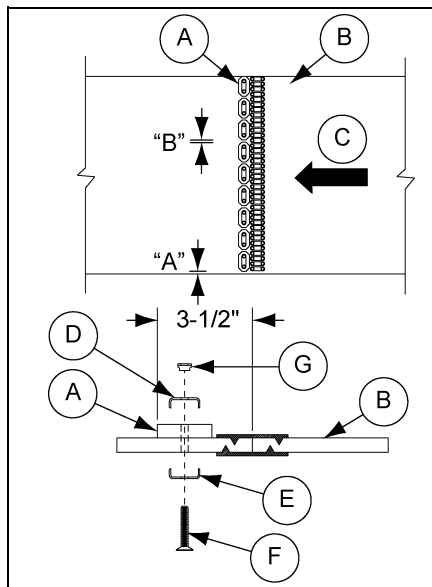

Figure 4P Belt Splice Protector Layout
Once the belt has been spliced and all nuts tightened, the belt splice protector is to be installed. The splice protector (A) is to be placed in front of the splice going with the flow of material (C). See Figure 4P for proper spacing.
1. Assemble bolts (F) in bottom plates (E). Snap clip over heads of bolts (F). Then insert bolts (F) from under side belt along the row of holes.
2. Place splice protectors (A) on top side of belt.
3. Place top plate (D) over one bolt. Insert Bolthorn Tool through the other plate hole and over the second bolt to pry it into place.
4. Assemble all top plates (D) the same way as in direction 3. Start nuts down by hand far enough so that wrench will engage bolts.
5. Tighten all fasteners. Tighten all nuts (G) uniformly. The Flexco Power Tool Wrench used with an impact tool will speed this step considerably.
6. Hammer plates in belt with metal or hard wood block in between bolts (F). Then retighten nuts (G).
7. Break off excess bolt ends using two (2) bolt breakers. On belts with thicker than 3/8" rubber covers, retighten all nuts after a few hours of running. Grind sharp edges of broken bolt ends until they are smooth and do not protrude.